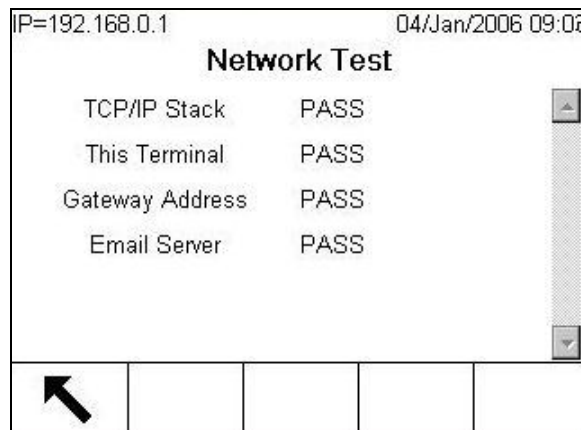

Figure 3-29: Network Test Screen
- Network Test—Enables testing of the Ethernet programming/hardware/firmware in the terminal. Figure 3-29 shows the result of running a network test.